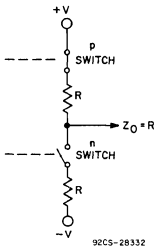

Fig. 3 — Constant output impedance of a buffered gate.
–Buffered—Fig. 3 depicts the buffered output stage and shows the MOS transistor as switched on with a channel resistance R ; R is the same value for the n-switch closed or the p-switch closed.
as buffered (B) types or unbuffered (UB) types by virtue of the squared or rounded transfer characteristics of Figs. 3 and 4, respectively. Even though both types have a single NMOS and single PMOS output transistor, the rounded transfer characteristic of the unbuffered inverters makes them UB types by virtue of:
Output Impedance—Refer to Figs. 3 and 4 and accompanying descriptions of the constant output impedance of buffered gates and the variable output impedance of unbuffered gates. Note that both buffered and unbuffered RCA 2-, 3- and 4-input gates are designed to meet the same maximum output impedance; output current ratings (I_{OL} and I_{OH}) have the same minimum limit on RCA data sheets.